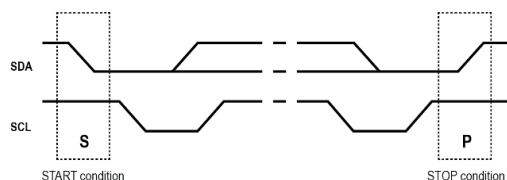

Figure 2: Start and Stop Commands
The start and stop commands are signaled by the master device, and they signify the beginning and the end of the I²C transfer, respectively. A start (S) command is defined as the SDA signal transitioning from high to low while SCL is high. A stop (P) command is defined as the SDA signal transitioning from low to high while SCL is high (see Figure 2).